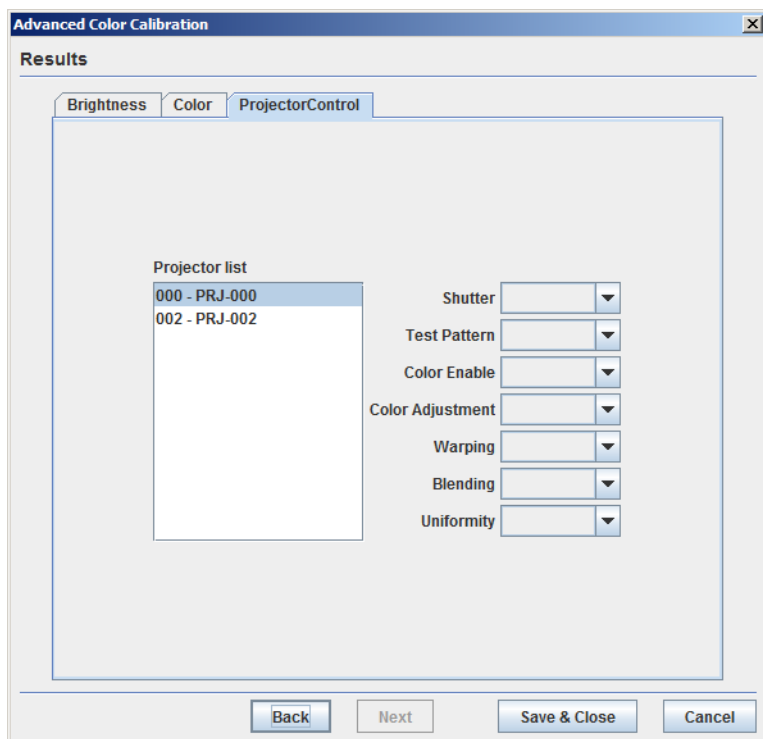

Figure 4-41 Advanced Color Calibration - Results - Projector Control
- To further adjust projector settings, click the Projector Control tab (Figure 4-41).